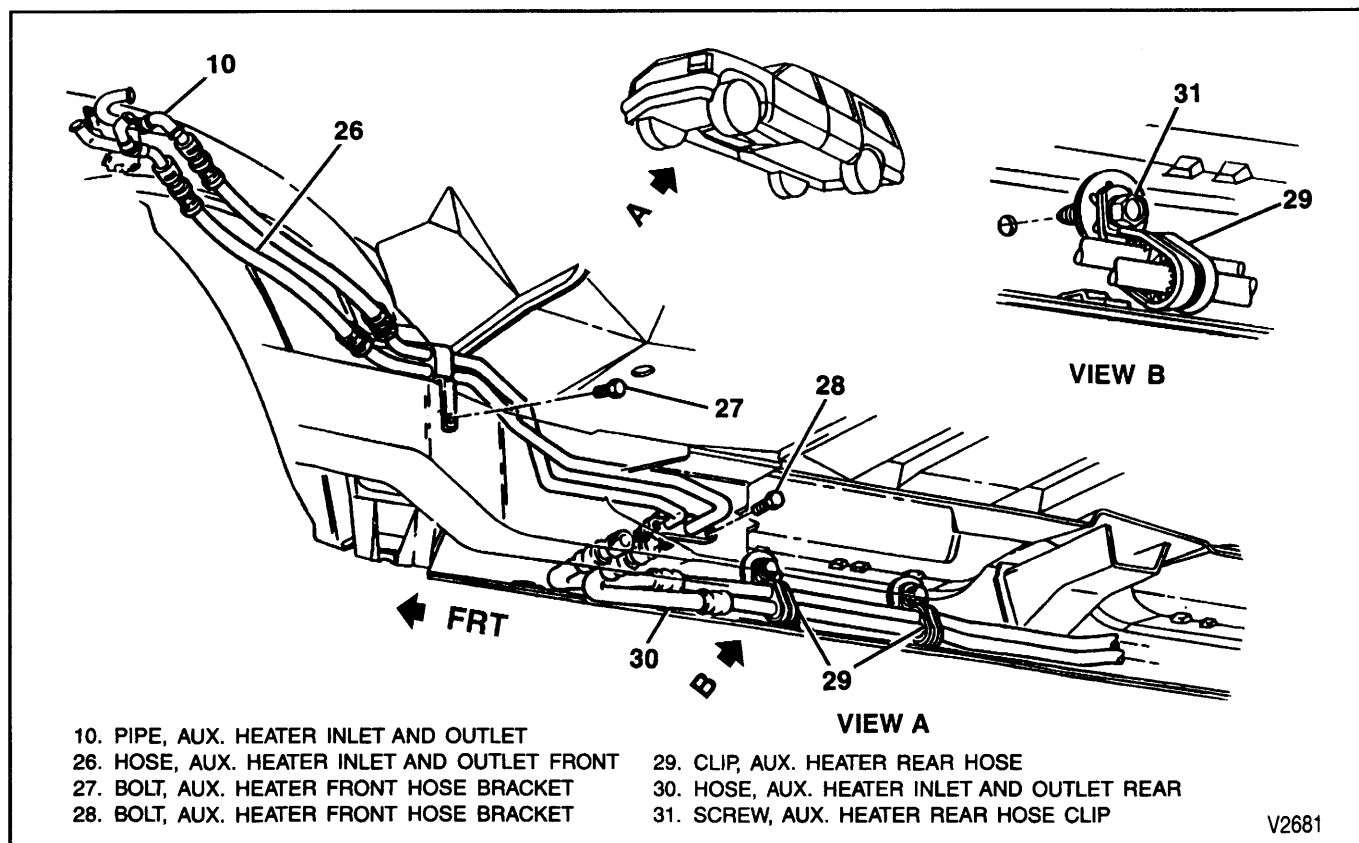

Figure 24—Auxiliary Heater Hose Assembly Routing (Front)
↔ Remove or Disconnect (Figure 24)
↔ Install or Connect (Figure 24)
↔ Remove or Disconnect (Figures 24 and 25)
2. Bolts (31).
3. Rear hose assembly (30) from front hose assembly (26) (figure 24).
- Push rear hose assembly (30) into front hose assembly (26) and insert J 38723 or equivalent into hose to release locking tabs.
4. Rear hose assembly (30) from auxiliary heater core (32).
- Push rear hose assembly (30) into auxiliary heater core (32) and insert J 38723 or equivalent into hose to release locking tabs.
Install or Connect (Figures 24 and 25)
1. Rear hose assembly (30) to front hose assembly (26) (figure 24).
2. Rear hose assembly (30) to auxiliary heater core (32).